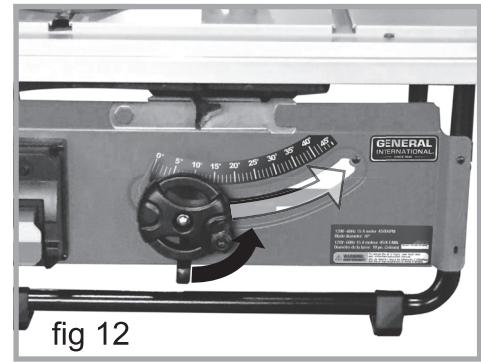

fig 12
1. Loosen the bevel lock lever by pushing it up and to the right. Push the hand wheel assembly until the blade is at the required angle of cut. (fig 12)